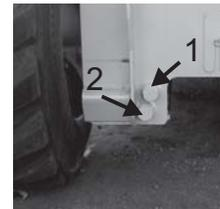

Fig. 43: Check and Drain Plugs
2. Remove the check plug (Fig. 43) from each chaincase housing. The oil level should be at the plug level or no more than ¼” (6 mm) below.
2. Remove the drain plug on each chaincase (Fig. 43) and drain the oil into a suitable container.